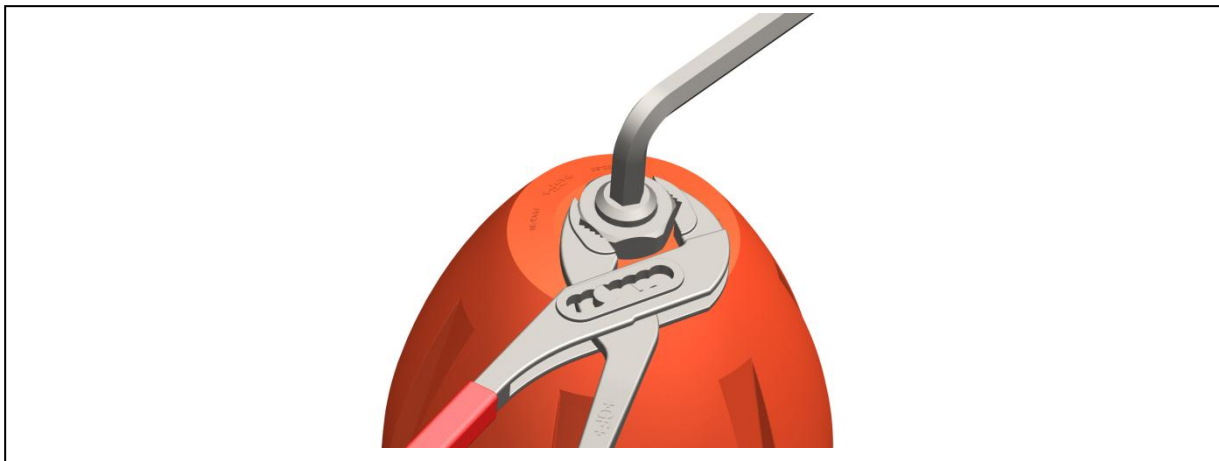

Fig. 6
- Fix the spindle with Allen wrench and simultaneously tighten the locking nut with a suited tool, see Fig 6